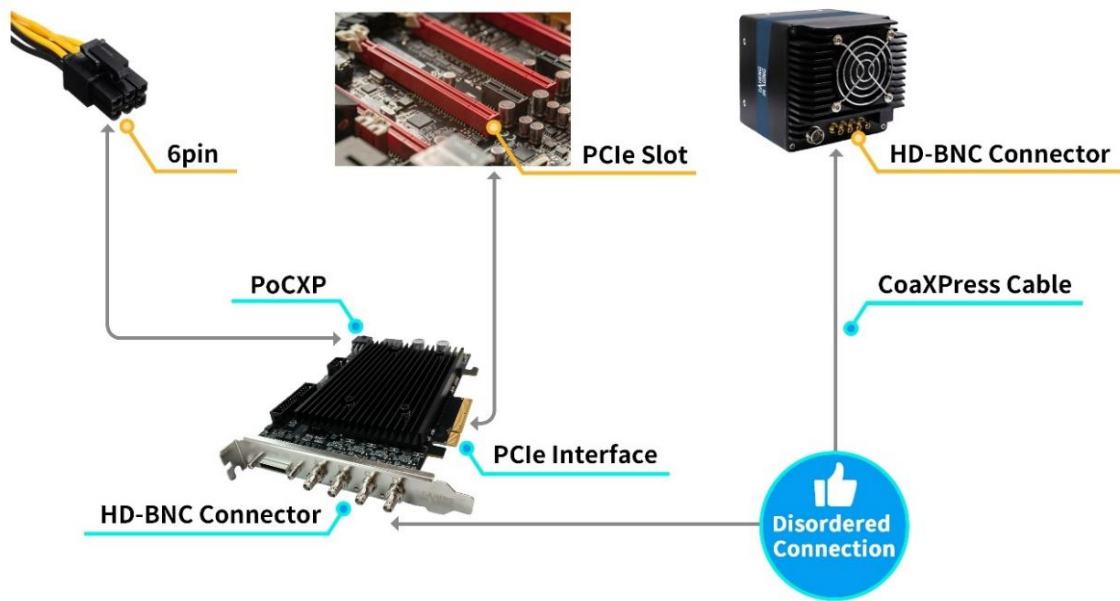

Figure 3-3 Schematic diagram of hardware connection for frame grabber
- 2) For CXP frame grabber: if you need to power the external camera by PoCXP, you need to connect the 6pin terminal of both the PC and the frame grabber end (GEV frame grabber does not support PoE and does not require 6pin terminal on PC side), see Figure 3-3.
- 3) Camera connection: Taking CXP frame grabber as example, the way of connecting the external camera and the frame grabber is shown as Figure 3-3, users can choose single, dual or quad channel according to the actual usage.